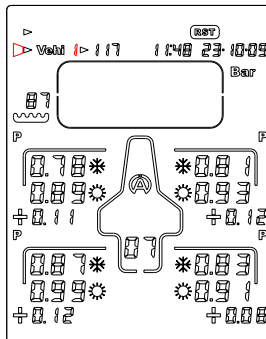

Figure 15
- 2) With the button  or  , select the icon « **Vehi** » (figure 15)
- 3) With the button  or  , select the vehicle wanted (figure 15)